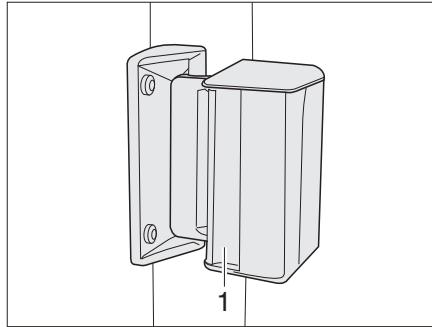

Fig. 67 Sliding window
- Press handle (Fig. 67,1) and push or pull it forward or backward at the same time.